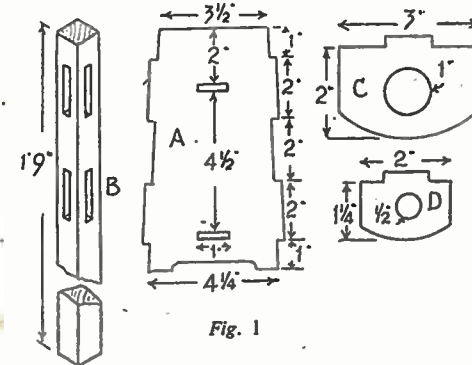

Fig. 1
The article can be made from any wood available though, of course, a hardwood such as oak, would make a more pleasing piece of woodwork. Most of the parts are grouped together in Fig. 1. Cut four of the panels (A) from 1/2 in. fretwood or plywood. The latter can now be bought faced with oak, and looks well, as well as the solid wood, in fact. Cut to the dimensions